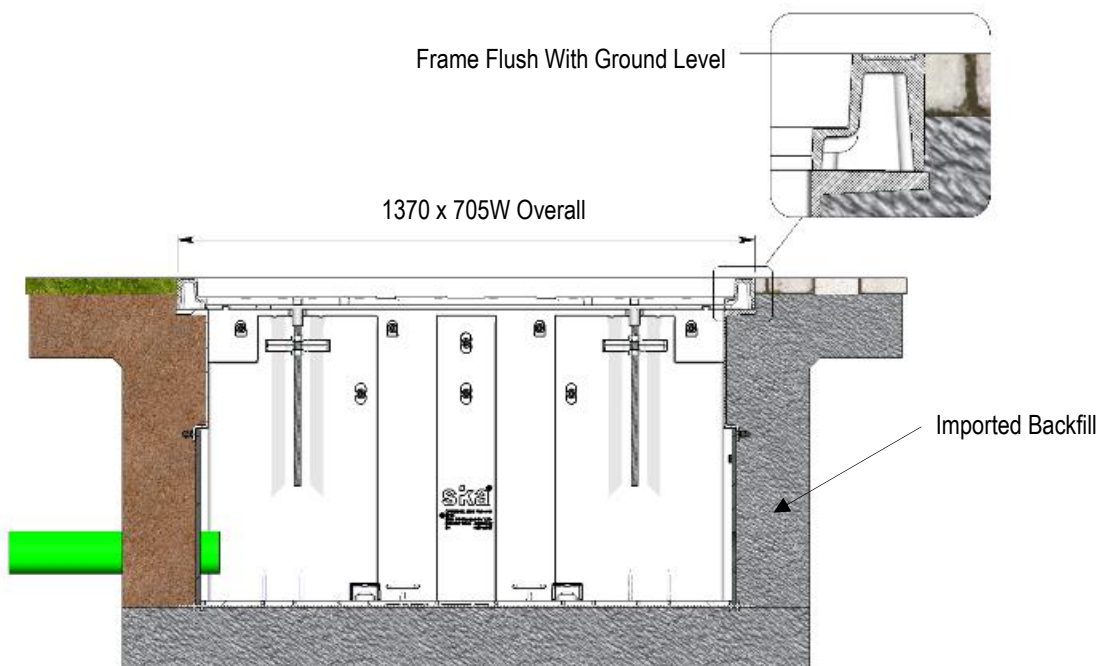

Fig 2c
Place the assembled **chamber and cover set channel frame** into the prepared pit, or assemble all of the above in the pit, particularly if over existing duct work. Make level on compacted bedding to accommodate the chamber base at the required height so that the **cover set matches the finished ground level.** Ref Fig 2c
**Backfill** chambers with mechanically compacted layers of evacuated material if the material is of a suitable type. The compaction shall be of a standard equivalent or more than that of the surrounding ground. **If the evacuated earth is unsuitable imported hard fill shall be utilised.** Ref Fig 2c